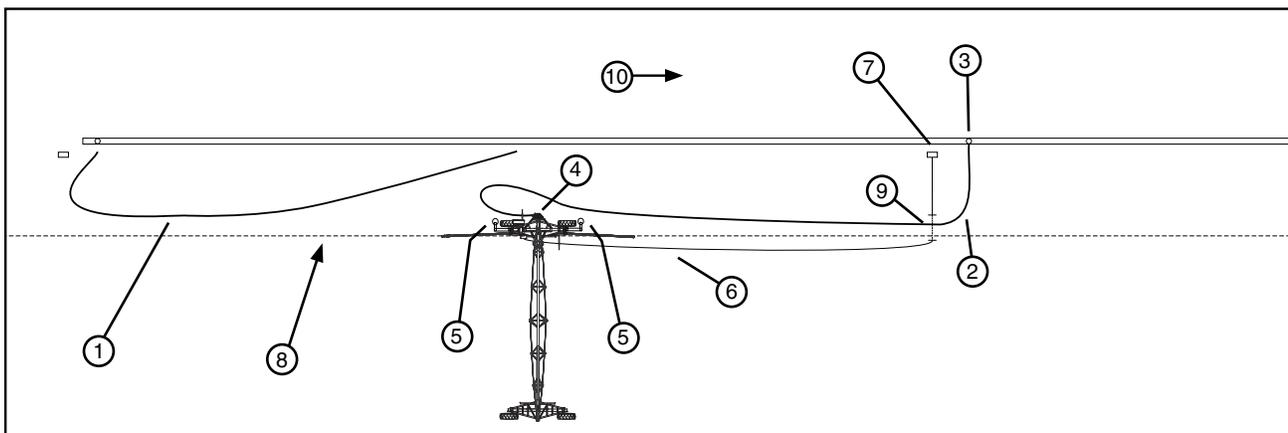

Figure 52-1 1. First Hose 4. Swivel Inlet 7. Power Pedestal 10. Direction of Travel
- If more than one hose is being used, disconnect first hose from swivel inlet. Connect second hose to next pipeline shut off valve, position second hose, connect and secure to swivel inlet. See Figure 52-1.
- (c) Position the electric cord far enough away from the hose, so that the hose will not drag over it. To prevent interference between the electric cord, cart tires, furrow guidance system and hose, bury the electric cord in the area where interference will occur or when applicable, position the electric cord over the top of hose. See Figure 52-1.